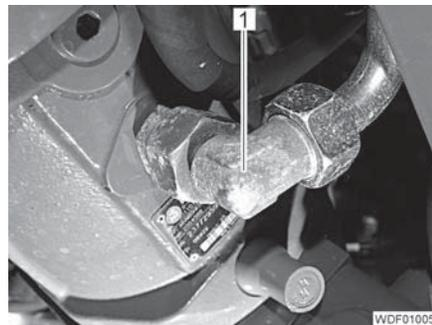

Fig. 259 Hydraulic line of the cross flushing connection
- Screw the hydraulic line of the cross flushing connection (Fig. 259,1) onto the connection on the variable displacement motor and tighten.